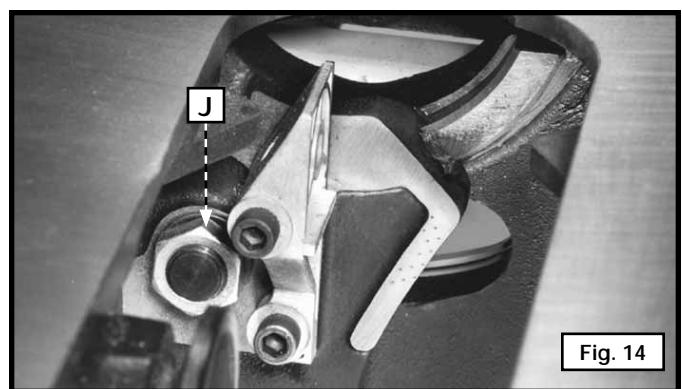
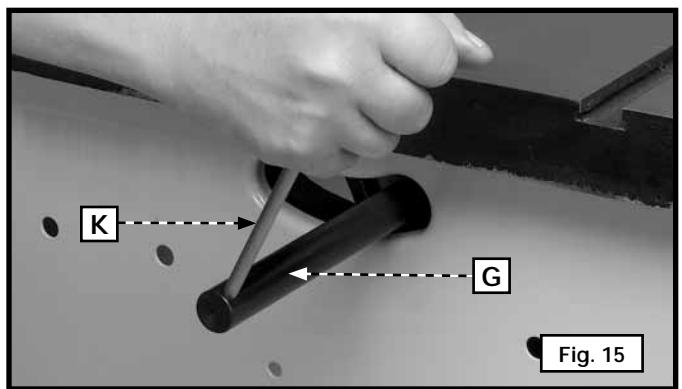

Fig. 14
Fig. 15
- Insert the threaded end of the support rod (G) Fig. 13 through the slot in the rear of the saw and into hole in the rear trunnion (H). Fasten the support rod (G) to the trunnion with a star washer and a 5/8-18 hex jam nut (J) Fig. 14.
NOTE: Thread the nut (J) Fig. 14 on the threads of the support rod (G) as far as possible by hand.
- Use a wrench to hold the jam nut (J) Fig. 14. Tighten the rod (G) Fig. 15 with a small screwdriver (K) or similar device through the hole in the end of the rod.